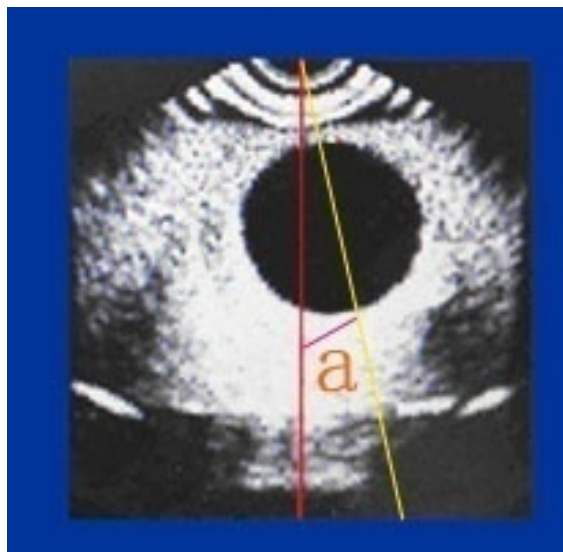

Figure A-6 $\angle a$
A. 4.1 When the image looks like fig. A-4, the value of probe calibration in the system setting shall be positive. The value is calculated by the degree value of $\angle a$, as fig. A-6($\angle a$ equals the center of the image between the red line' degree)